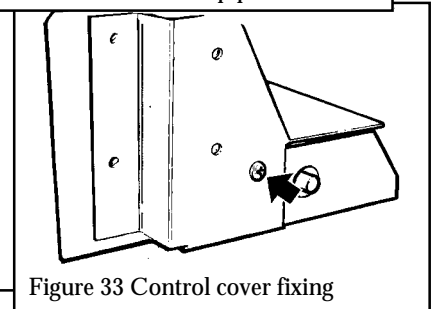

Figure 33 Control cover fixing
14.9.5 Detach the control unit cover by removing one screw (see figure 33).